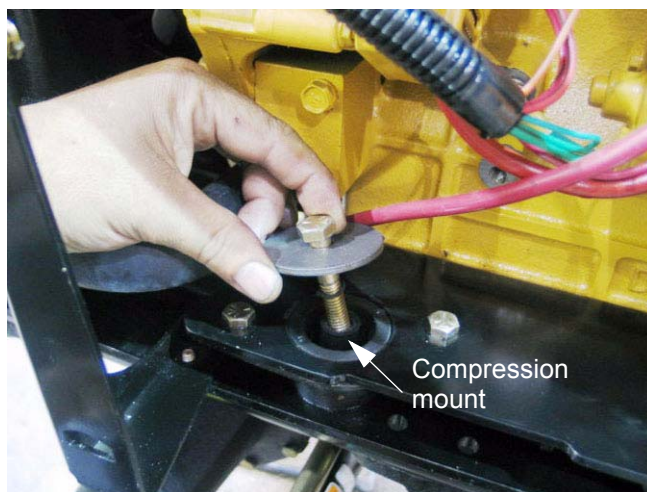

Figure 2.4
2.4. Remove the four bolts, nuts, and large flat washers that are used to secure the engine compression mounts to the tractor frame. This can be done using a pair of 9/16" wrenches. See Figure 2.4.